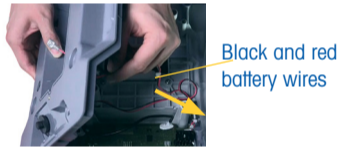
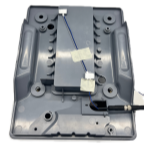

Figure 1
Figure 2
- Lead-acid Battery Version: Separate the scale bottom from the scale casing. Pass the black and red battery wires through the scale bottom with care (Figure 1). Dry-cell Version: Unscrew the metal joint (Figure 2).
2. Lead-acid battery version: Pass the black and red battery wires through the scale bottom (Figure 1). Dry-cell version: Tighten the metal joint (Figure 2).